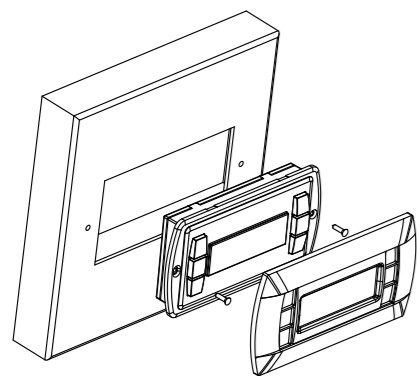

Fig. 1
- Insert the terminal, with the front frame removed, into the opening, and fasten the device to the panel using the flush-head screws, supplied in the packaging, as shown in Fig. 1;